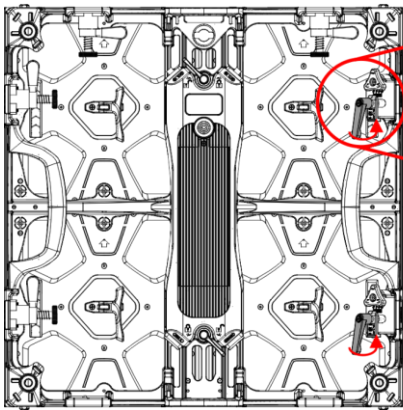

Fig. 51
- 01) Turn the top vertical **locking handle (09)**  $360^\circ$  counterclockwise to unlock the inclination mechanism, as shown in Fig. 51.